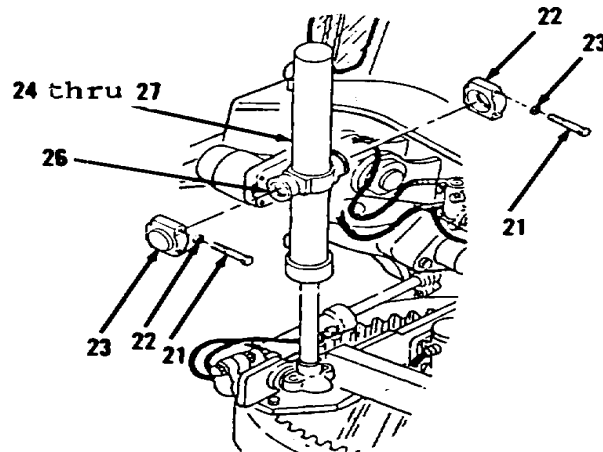

Figure 10-131.
10. Attach hoist and sling to cylinder (27). Remove slack from sling.
11. Remove four bolts (21) and washers (22, Figure 10-131).
12. Remove two caps (23).